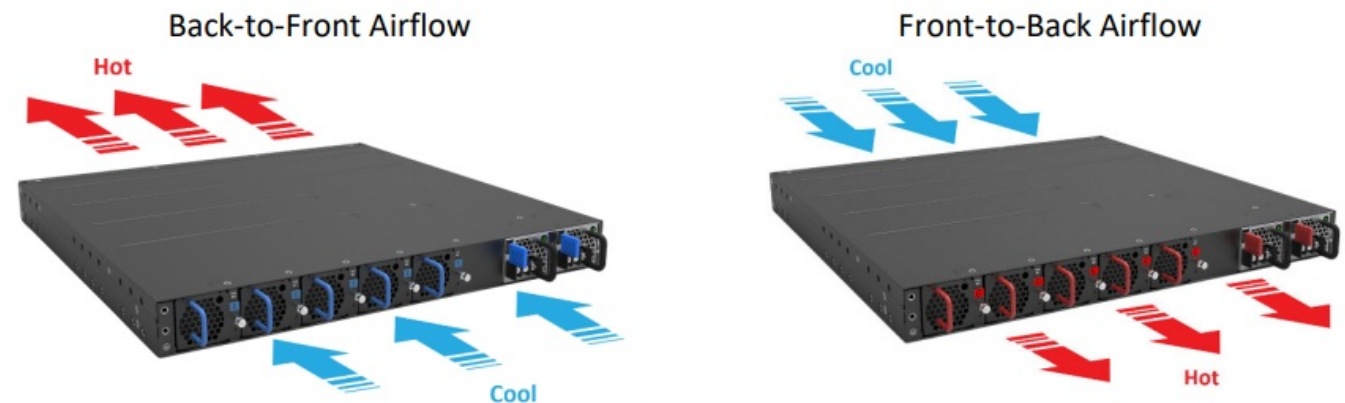

Figure 3.
- **Cooling:** The S8901-54XC has two options for airflow direction. There is a back-to-front option (Figure 3. Left) and a front-to-back option (Figure 3. Right). Make sure the equipment on the same rack have the same airflow direction.